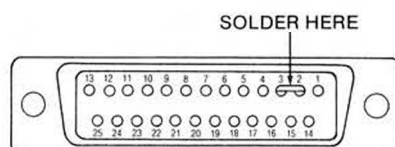

Figure 5-1
2. Before selecting the port to be tested, you must connect pin 2 and pin 3 at the connector for the port to be tested. A test fixture to do this may be constructed by using a DP25-P connector with pin 2 and pin 3 soldered together. (See Figure 5-1.)